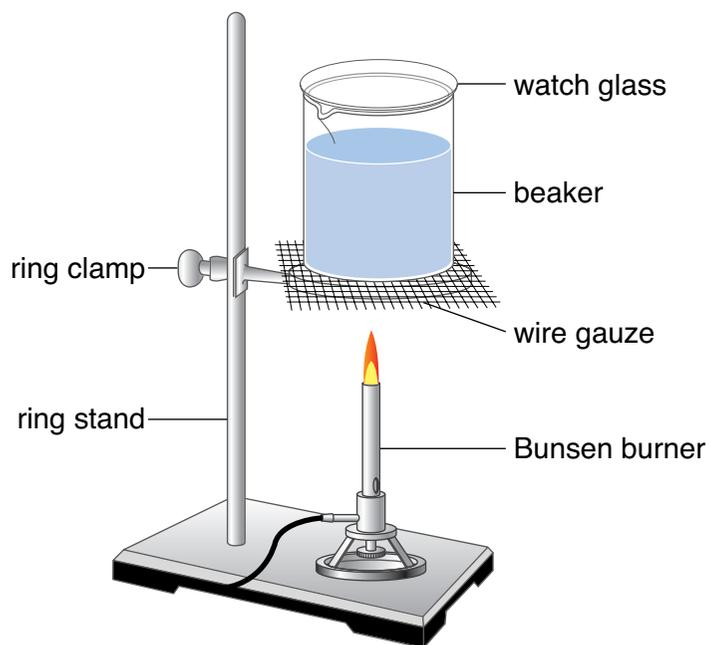

Figure 2
6. Set up a ring clamp on a ring stand and place a piece of wire gauze on the ring to serve as a base for the beaker to sit on (Figure 2). Position the Bunsen burner under the wire gauze.